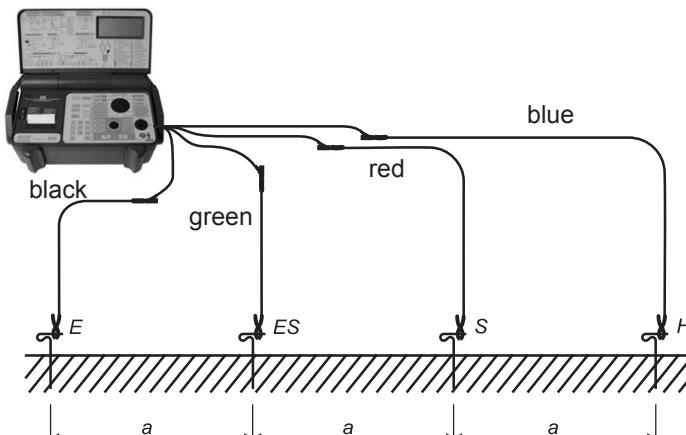

Figure 6.6.2: Connection test leads
- ▶ Switch on UNITEST EURO EXPERT plus via switch "ON/OFF" (9).
- ▶ Set the measurement range needed by using the function switch (1).
- ▶ Connect the 4-pole test leads to instrument, measurement connector (17).
- ▶ Place the four earth rods for E, ES, S, H in one line, if possible, in accordance with Figure 6.6.2. The distance between each probes must match the previously selected distance. Carefully place the test leads making sure that the test leads are not parallel to each other and do not cross to avoid coupling.
- ▶ Press the key "START" (2). The test voltage will be applied to the test object for approx. 2 seconds or is applied as long as the key is held pressed. Immediately on completion of test, the UUT is automatically discharged.